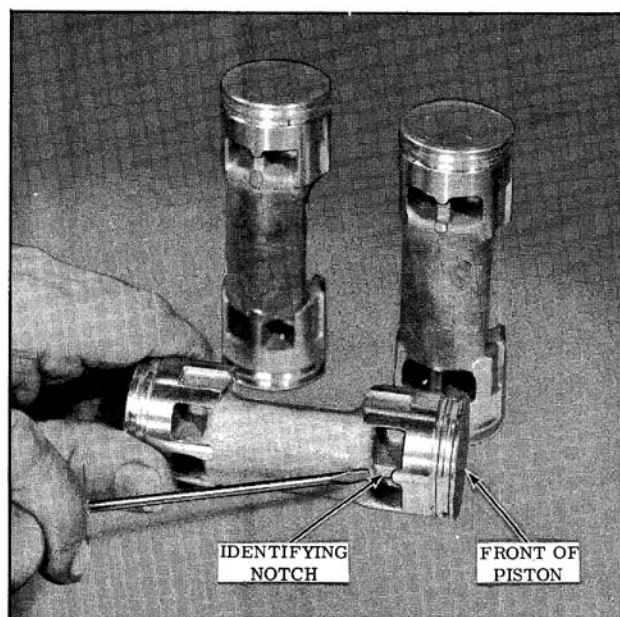

Fig. 14-118 Piston Identification
6. Place a zero shoe over each ball in the front end of the piston. The front end of the piston has an identifying notch in the casting web. (Fig. 14-118)